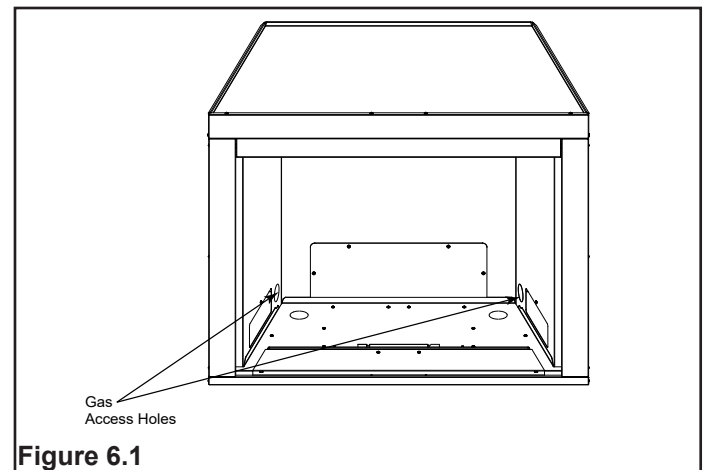

Figure 6.1
- Gas line may enter from the left or right side of the firebox. Knockouts are provided on sides of the firebox. See Figure 6.1.